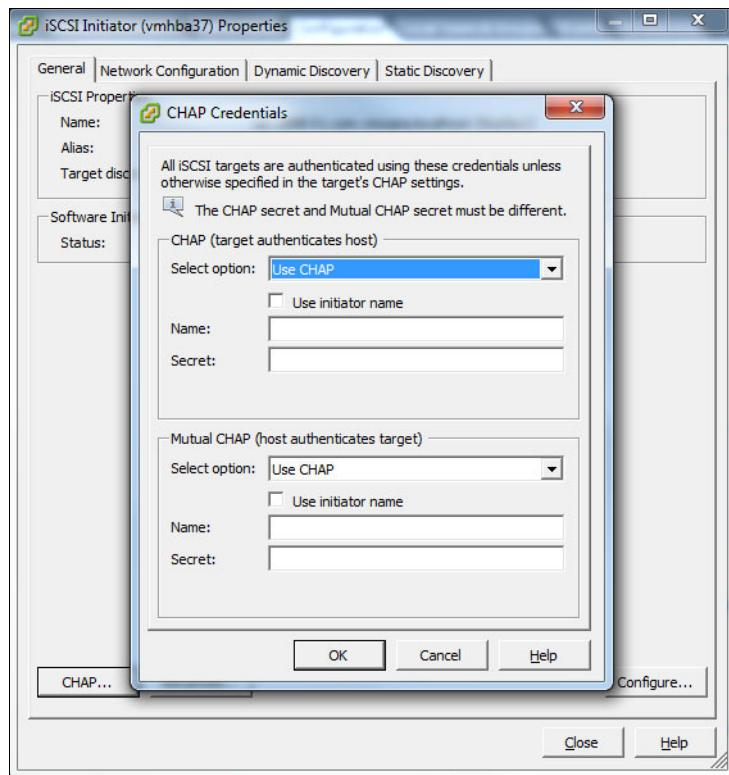

Figure 7-46 Specifying the CHAP credentials
- As shown in Figure 7-46, select **Use CHAP** for “CHAP (target authenticates host)”. Optionally, you can also select **Use CHAP** for “CHAP (host authenticates target)” if you want to use mutual CHAP.